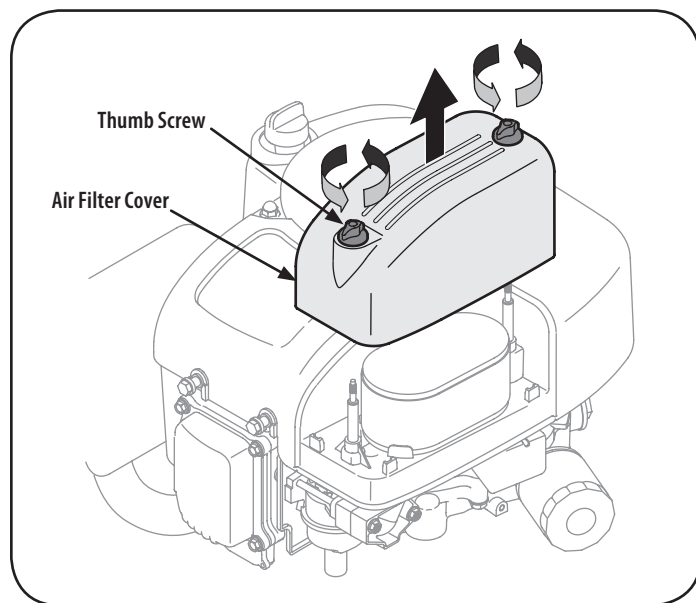

Figure 7
1. Unscrew the thumb screws and remove the air filter cover. See "Figure 7".